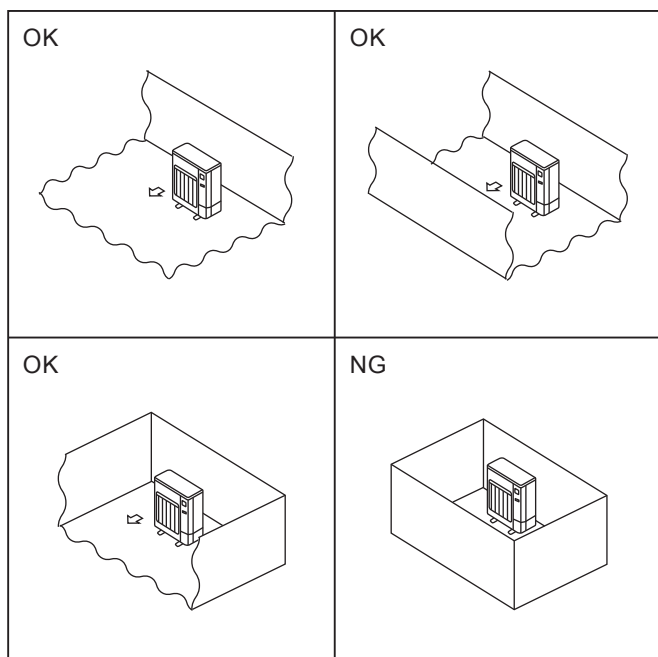

Fig. 2-2
- © Install outdoor units in a place where at least one of the four sides is open, and in a sufficiently large space without depressions. (Fig. 2-2)